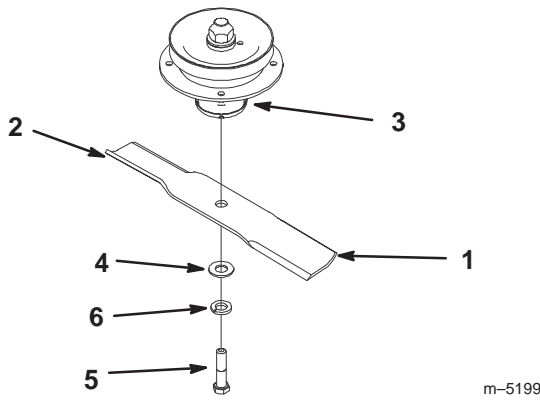
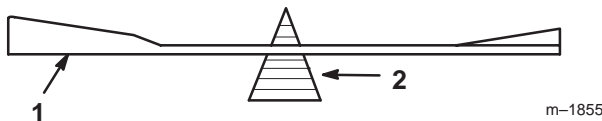

Figure 59
Figure 61
1. Hold the blade end using a rag or thickly-padded glove. Remove the blade bolt, washer, lock washer and blade from the spindle shaft (Fig. 59).
2. Check the balance of the blade by putting it on a blade balancer (Fig. 61). If the blade stays in a horizontal position, the blade is balanced and can be used. If the blade is not balanced, file some metal off the end of the sail area only (Fig. 59). Repeat this procedure until the blade is balanced.
1. Install the blade onto the spindle shaft (Fig. 59).
Important The sail part of the blade must be pointing upward, toward the inside of the mower to ensure proper cutting (Fig. 59).
2. Install the lock washer and blade bolt (Fig. 59).